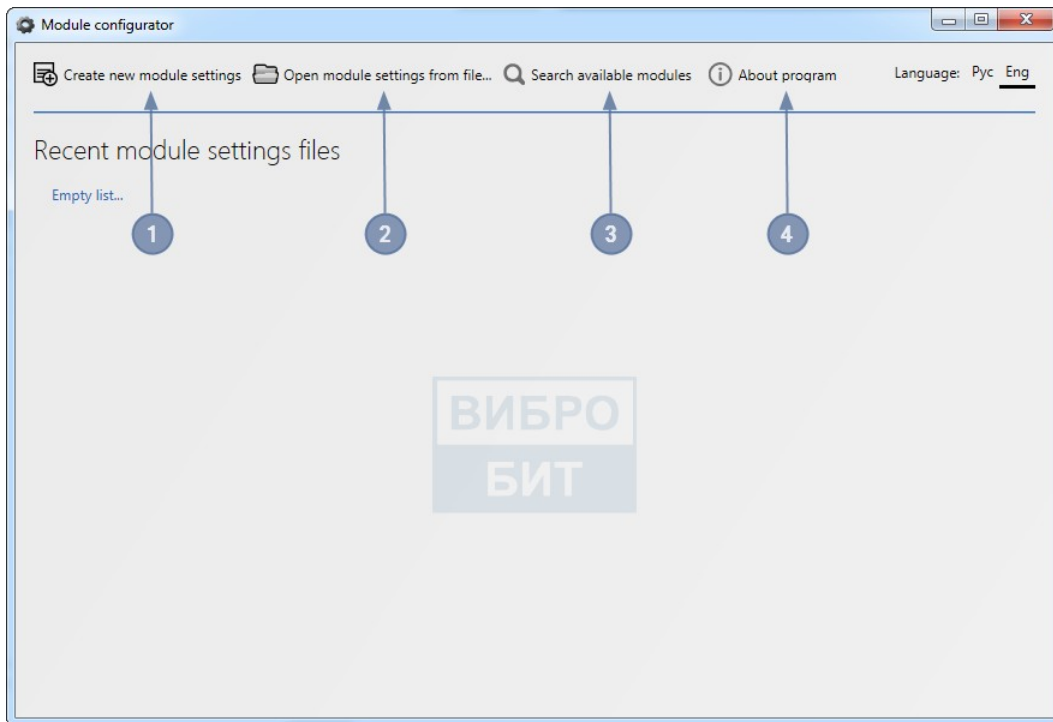

Figure 2 – Program start window
The program main window (Ref. Figure 2) consists of the following menu elements:
- 1) **Create new module setting** (Figure 2, item 1) – to create setting of specific control module;
- 2) **Open module settings from file** (Figure 2, item 2) – to open module settings from file;
- 3) **Search available modules** (Figure 2, item 3) – search of available modules and opening their configurations;
- 4) **About program** (Figure 2, item 4) – contains program reference information.